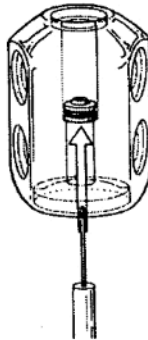

Fig. 2
- using the plastic handle of the mounting device, press out the seat (10) of the UA valve by inserting the fixture from the side of the diaphragm body. Remove the o-ring (9) from the seat. (see Fig. 2).